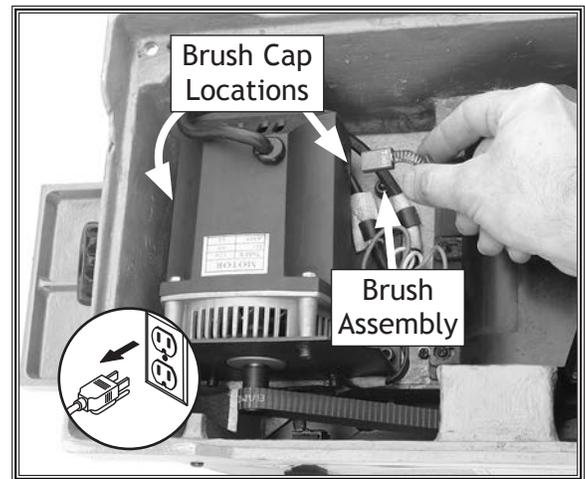

Figure 48. Removing a motor brush.
5. Use a dime to unscrew the brush caps (see **Figure 48**).